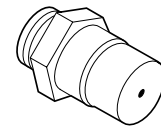

Figure 52
A. Remove the orifice from the manifold and replace it with the one provided in the kit. See the following table for orifice sizes for natural and propane models. **Figure 52** illustrates the orifice.